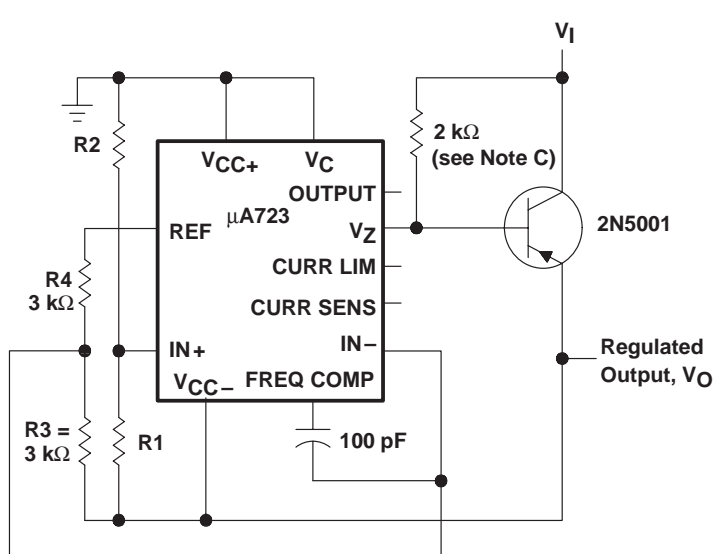

Figure 3. Negative-Voltage Regulator
6. For Figures 3, 8, and 10, the device requires a minimum of 9 V between  $V_{CC+}$  and  $V_{CC-}$  when  $V_O$  is equal to or more positive than -9 V.